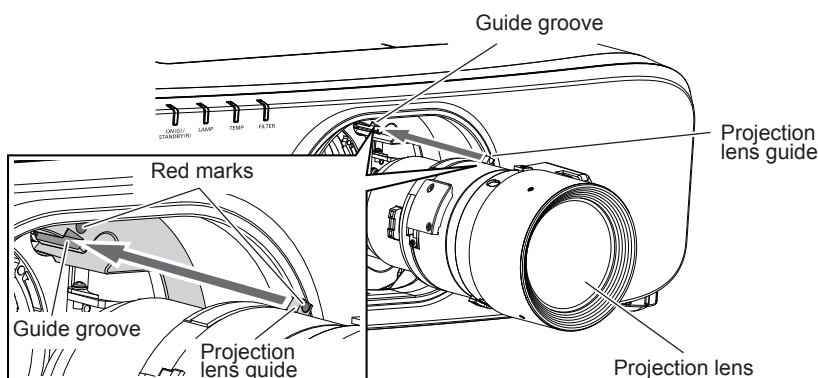

Fig.1
- 1) Align the red mark on the projection lens with the red mark on the projector, and insert the projection lens to the end. (Fig. 1)